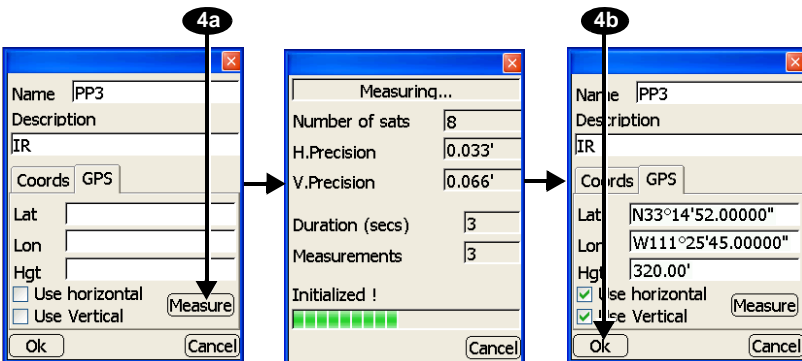

Figure A-19. Measure Control Point
4. Enable “Use horizontal” and “Use Vertical” and press **Measure**. Press **Ok** to save the measurement (Figure A-19).